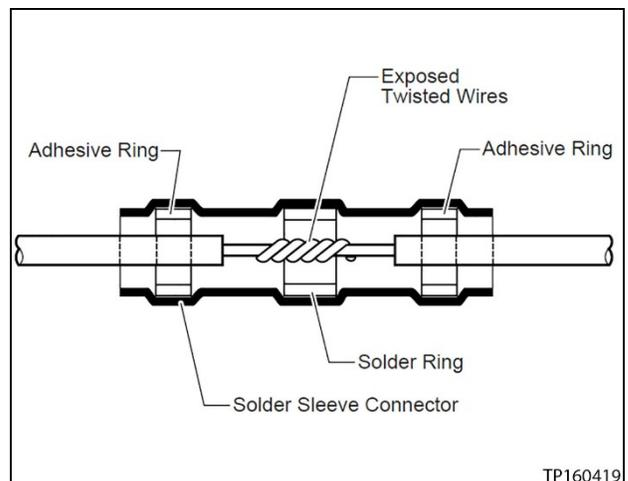

Figure 23
29. Slide the red solder sleeve over the twisted pair and position it so that the solder ring is over the two twisted wires as shown in Figure 23.